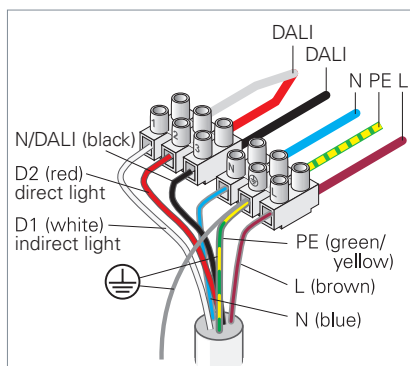

Fig. 6: Connecting the luminaire without sensors for operation with DALI.
- ▶ Connect the wire rope at the connection side of the luminaire to the protective earth conductor terminal, see Fig. 6.